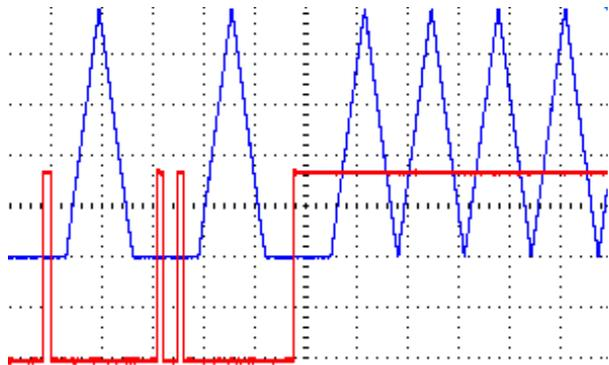

Figure 3a: Quantized QNT trigger
- **QNT jack (Quantized)** — Apply a trigger/gate to this jack to cause an envelope to start **on the next ping clock**. The PEG will wait for the next divided/multiplied ping clock and then start the envelope. Holding a gate high on this jack causes the envelope to repeat. See *Figure 3a*. The envelope will complete at least one entire cycle. If a second QNT pulse is received while the envelope is running, a second envelope will be generated. If the channel is in Async mode, triggering QNT goes back to sync mode.